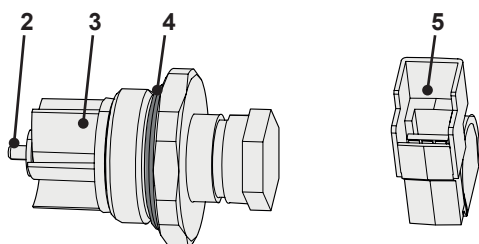
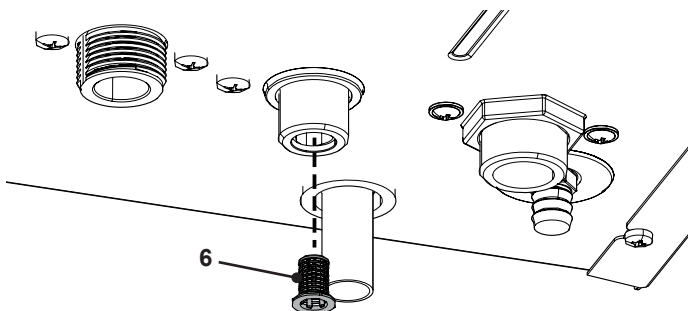

Figure 14.2
Figure 14.3
### 14.2 Description and location of parts - (Figure 14.2 - Figure 14.3)
- 4 Check that body with flow meter turbine "3" (Figure 14.2) rotates freely.